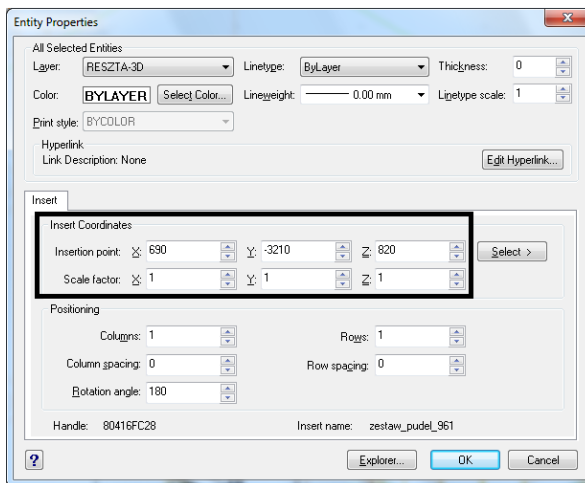

Fig. 290 – Entity properties dialog box
- confirm the changes by clicking **Ok** (Fig. 290);